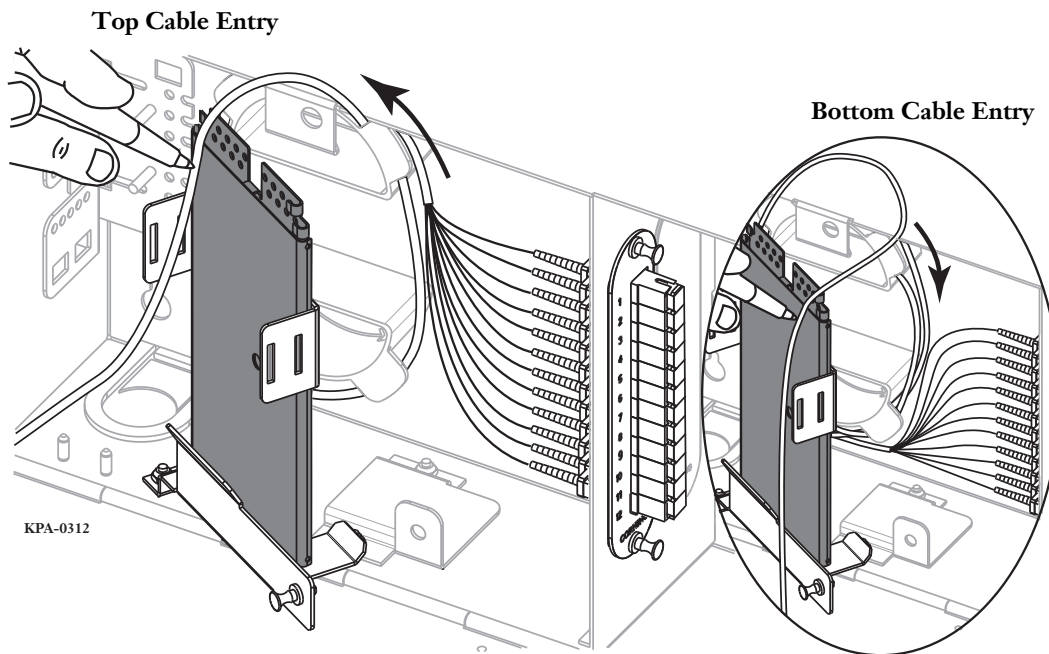

Figure 5 — Install and Route Pigtail
Step 3: Mark the pigtail where it will enter the splice tray (Figure 5).